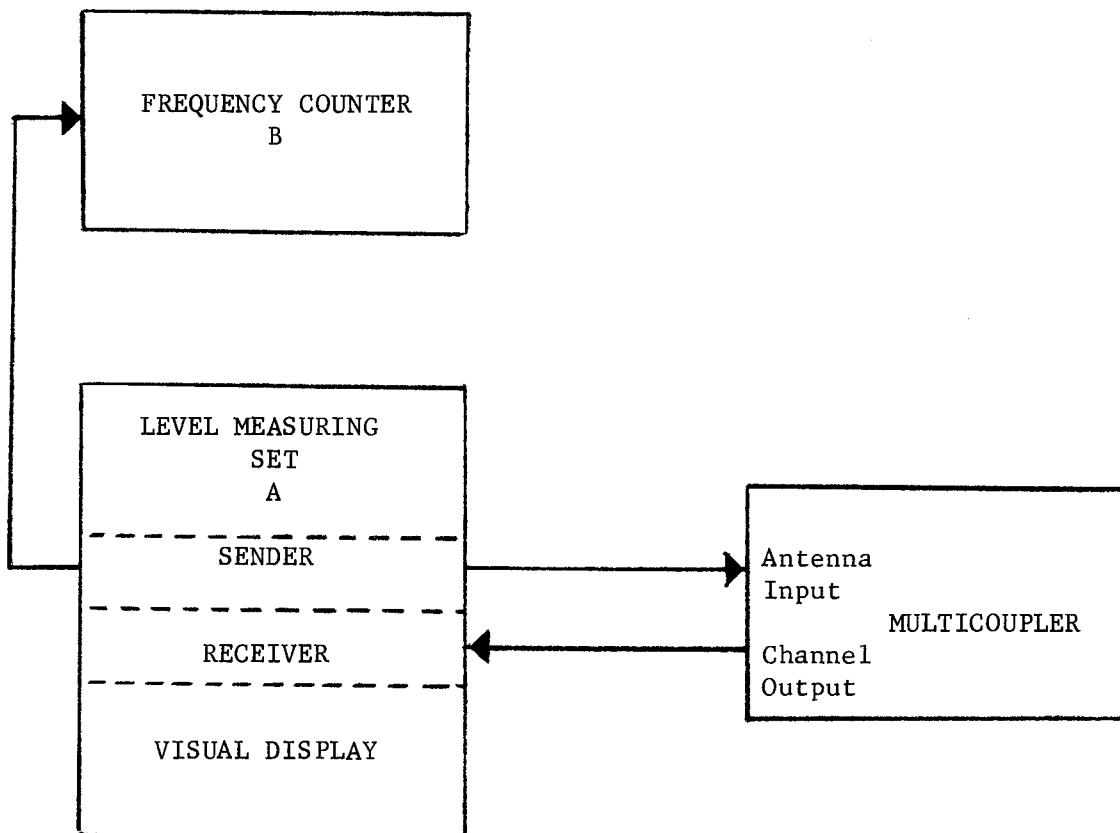

FIGURE 2.0
1. Connect the equipment as indicated in Figure 2.0.